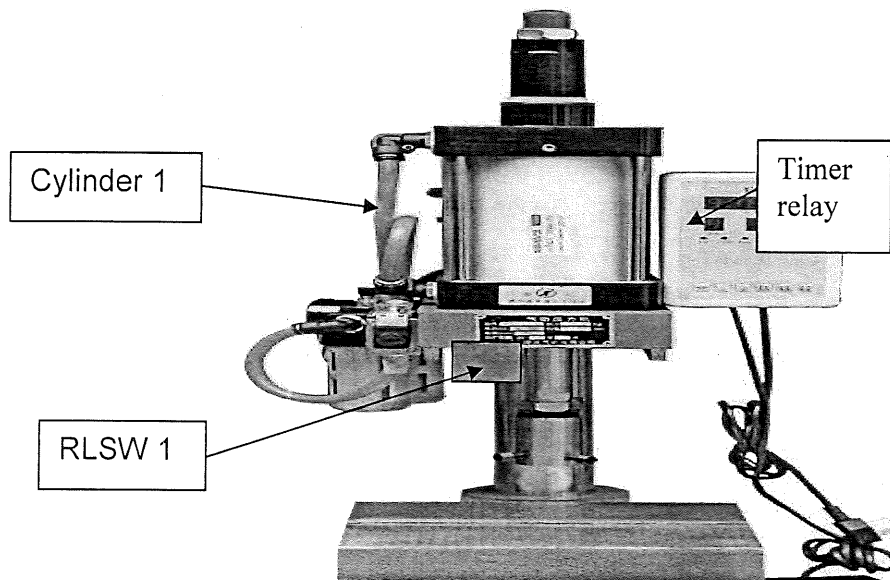

Figure 3
b) Figure 3 shows, the piston rod of a double acting cylinder 1 is to extend, when three of normally open pushbuttons (**PB1 AND PB2 AND PB3**) are actuated and will only retract when the fully extend position of a double acting cylinder is reached, which detected by a normally open Roller Limit switch (**RLSW1**) **AND**, after **20 seconds** extension of fully extension of cylinder.